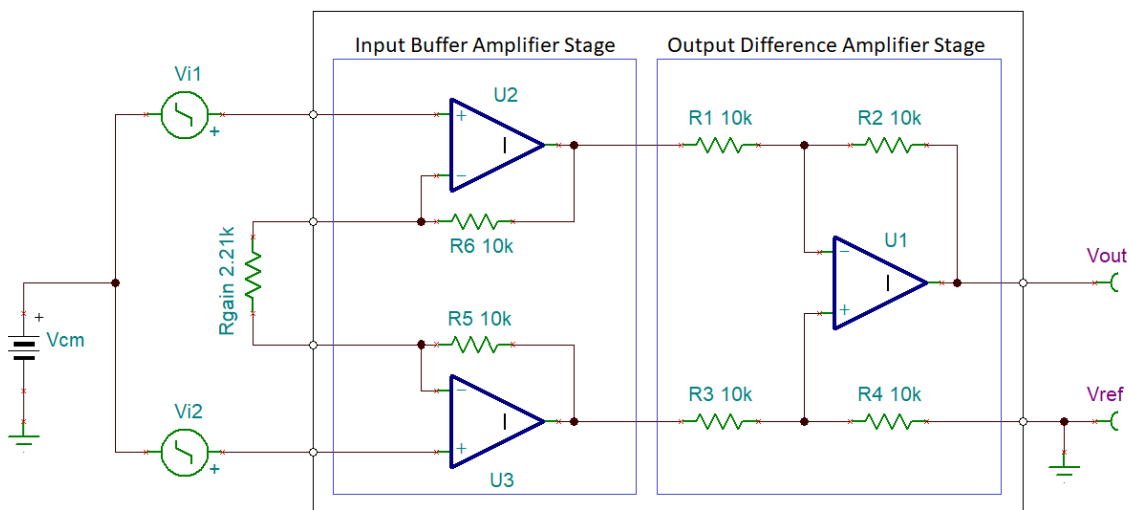

Figure 1. INA Internal Stage Diagram
First, let's talk about what an INA is. The general definition of an INA is a circuit or device fitted with one to three internal operational amplifiers (op amps) to improve signal quality and increase common-mode rejection. The more common type of INA is the three op-amp configuration shown in Figure 1. This configuration can be set up discretely, but using an INA integrated circuit (IC) will not only save space in your design, but will reduce CMRR errors.
The final stage of an INA is the difference amplifier. This is the part of the amplifier that rejects the common-mode voltage. This stage subtracts the two input signals. In a stand-alone difference amplifier, R2 and R4 would be equal, as would R1 and R3; and these resistors would set the gain. But in instrumentation amplifiers, the gain is set by the input stage, so R1 through R4 are equal for a gain of 1 V/V. Figure 1 expresses the gain of a difference amplifier as: